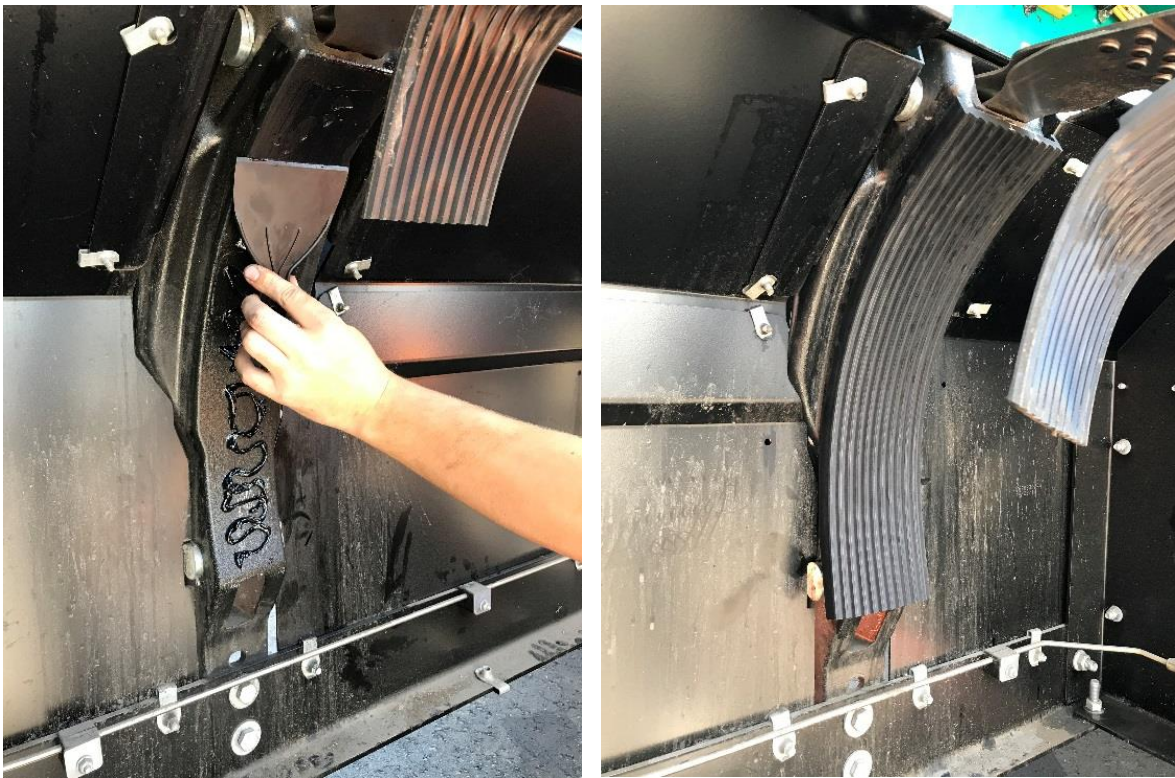

**Figure 8. Left: Apply adhesive to the bracket and spread onto the entire surface with a flexible putty knife.**
6. Mix and apply the adhesive to the entire bracket surface as shown in Figure 8. Make sure to spread a thin layer of adhesive on the surface, do not apply beads of adhesive.
7. Press the rubber isolator into place on the bracket as shown in Figures 8 and 9. Open time for the adhesive is 20 minutes.